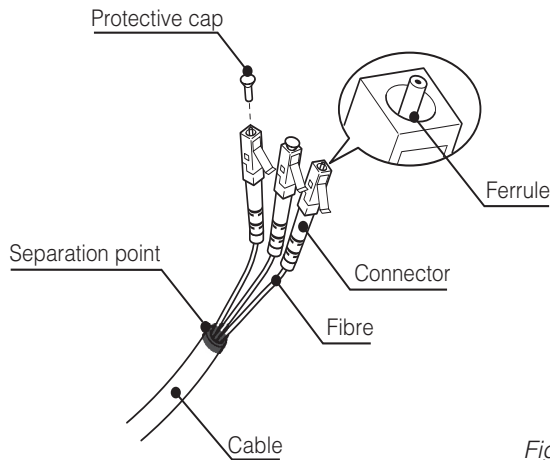

Fig.7
- The individual optical cables are delicate: always handle the main cable without touching the individual optical cables (*Fig. 7*).